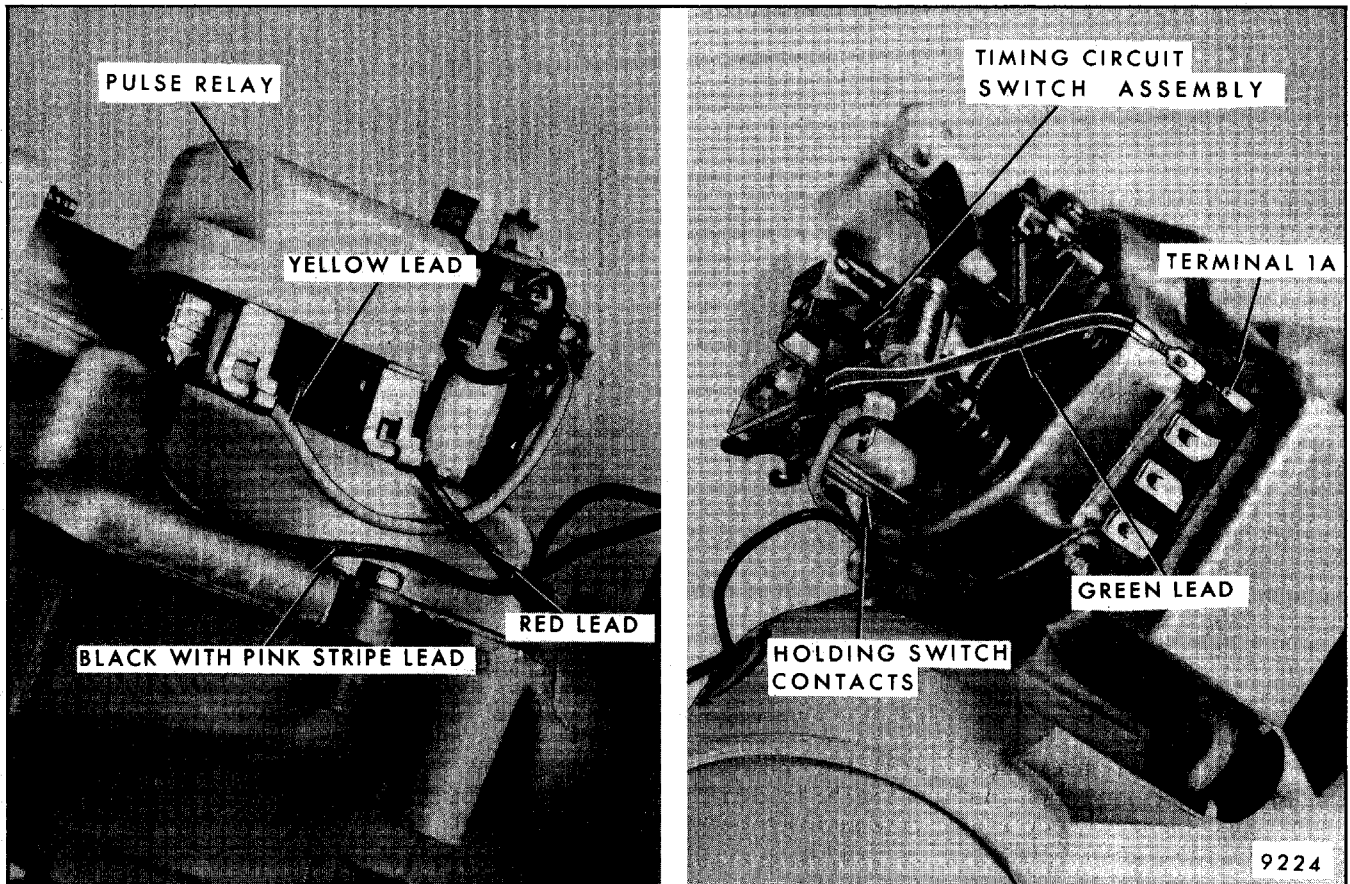
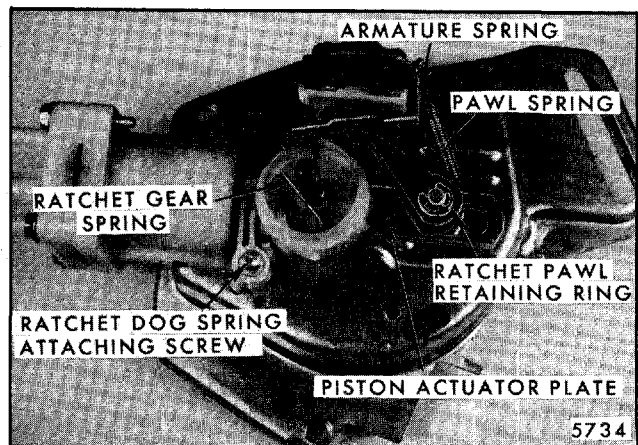

Fig. 2-136-Modified Pulse Relay Terminals and Leads
Fig. 2-140-Ratchet Pawl
and black with pink stripe leads from pulse relay terminals (Fig. 2-136).
4. Route and attach the red, green and black with pink stripe leads as shown in Figure 2-136.
- d. Reconnect red and yellow leads to appropriate pulse relay terminals (Fig. 2-136).
- a. Follow step a under item 3.
- b. Remove dog spring assembly (Fig. 2-140).
- c. Remove ratchet pawl retaining ring, disconnect pawl spring and slide pawl off cam-follower shaft (Fig. 2-140).
- d. Disconnect relay armature spring and remove armature (Fig. 2-140).